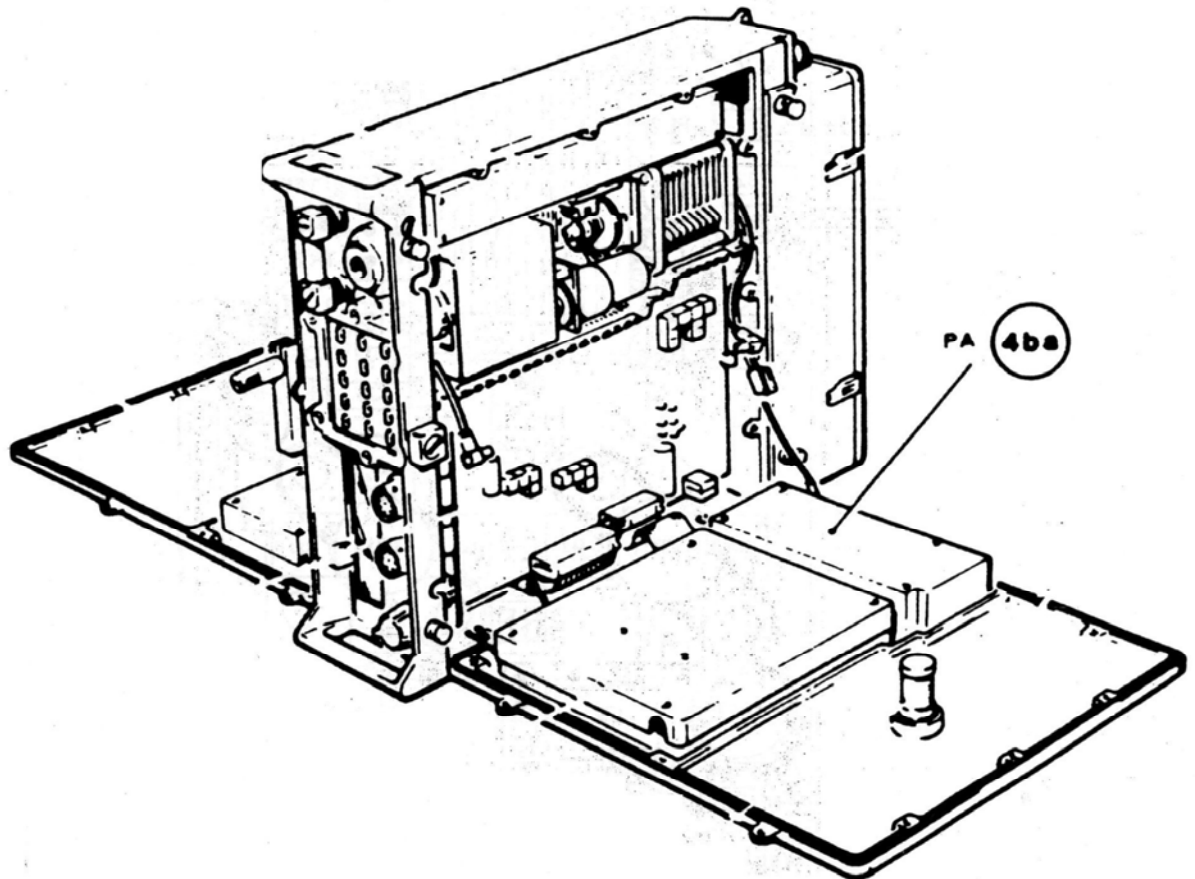
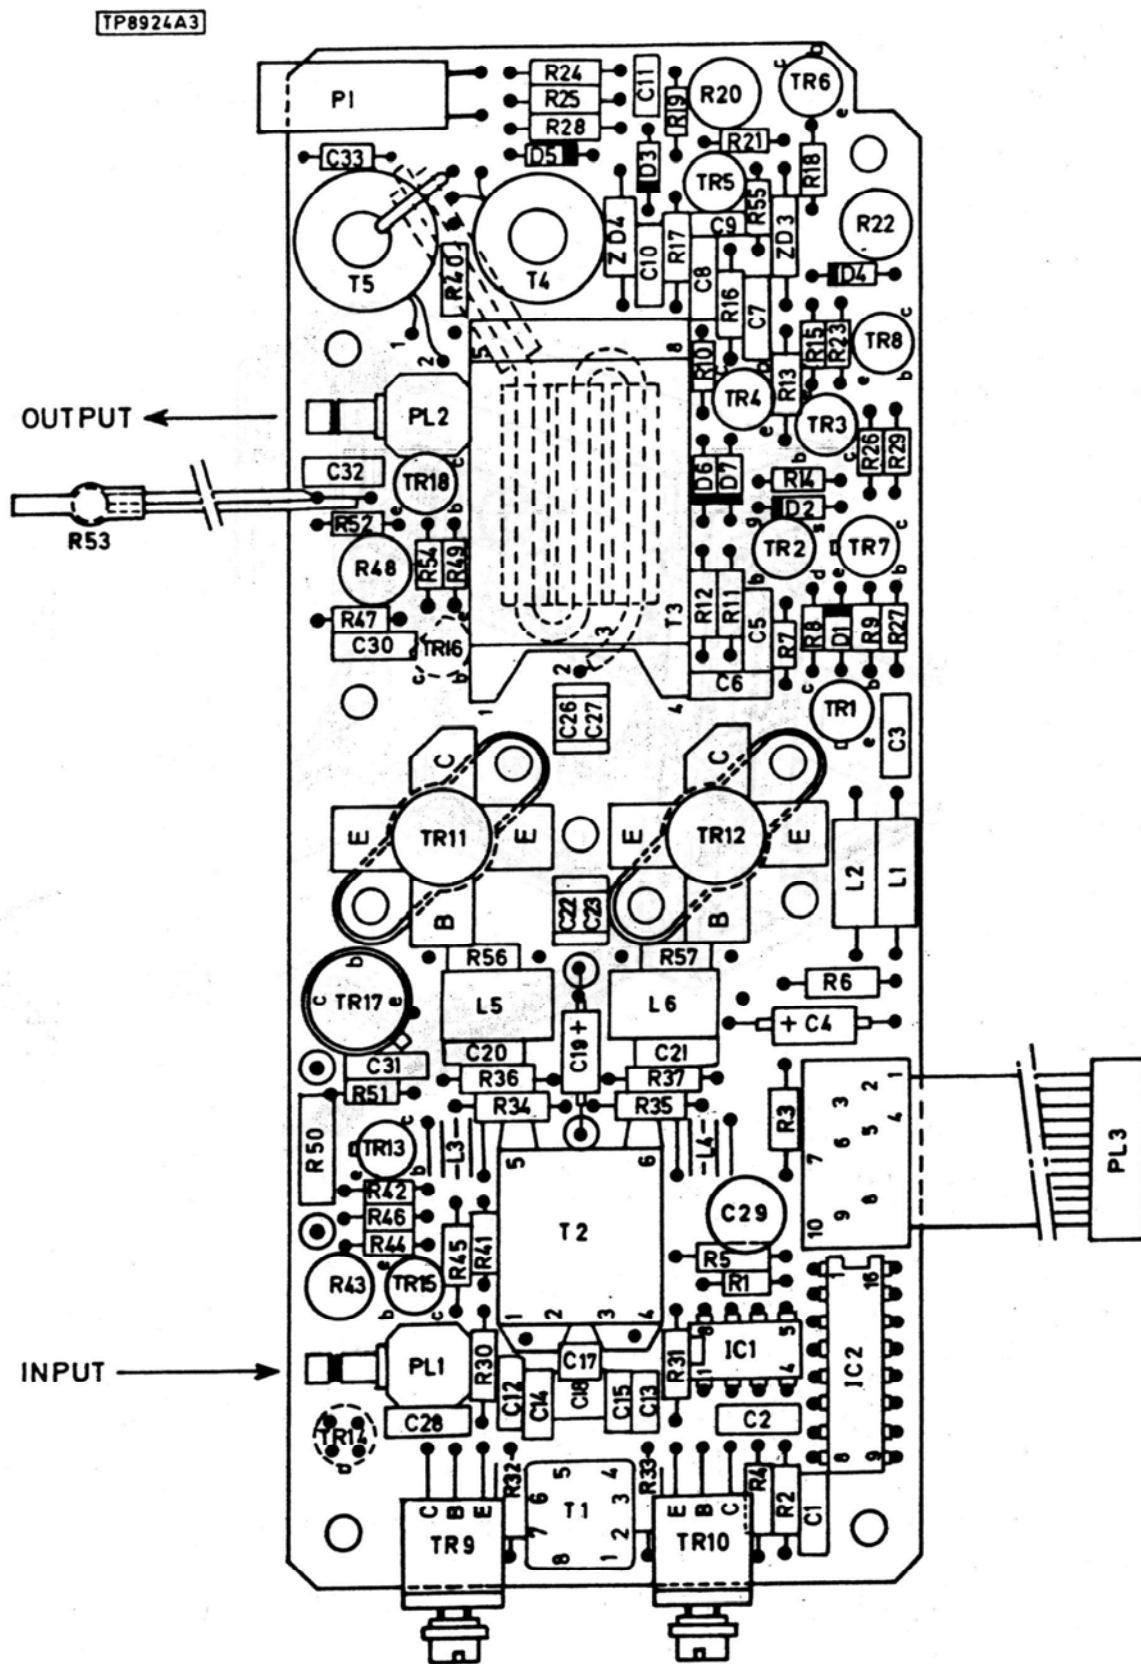

Fig 3.7.1 Power Amplifier PEC Location
Fig 3.7.2 Power Amplifier PEC Component Location
1 The Power Amplifier (PA) (Fig 3.7.1) forms part of the Lower Lid Assembly (See Chap 3.0, Fig 3.0.1 - Item 4ba) and consists of one PEC (Fig 3.7.2) on which all of the circuitry is contained.